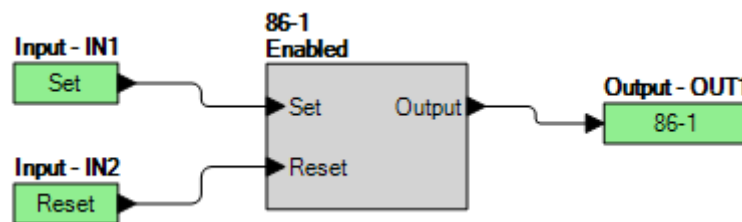

Figure 70-1. BESTlogic*Plus* Settings
Step 2: Use BESTCOMSP*lus* to configure the BESTlogic*Plus* programmable logic shown in Figure 70-1.